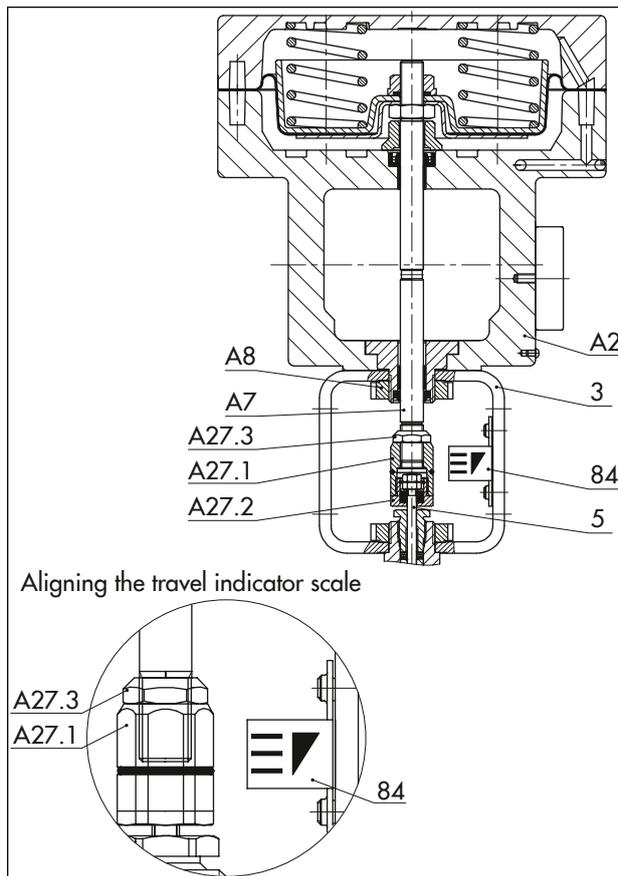

Fig. 13: Type 3277 Pneumatic Actuator on a Type 3510 Micro-flow Valve
See Fig. 13
9. Align the travel indicator scale (84) so that the bottom line on the scale is at the same level as the O-ring on the stem connector nut. See Fig. 13.